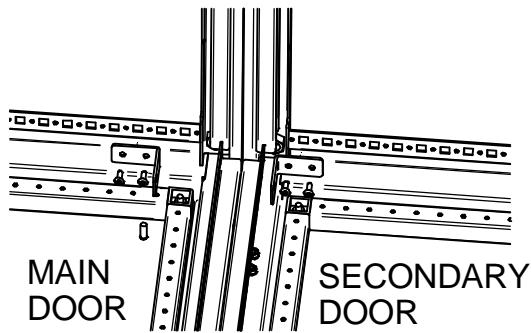

FIG. 1 (TOP INSIDE VIEW)
A) Install interlock rod support brackets (Item 5), one on the main enclosure frame one on the secondary enclosure frame (fig 1) using thread rolling screws (Item 9). Make sure the bracket in the main enclosure will be close to where the interlock engager assembly will end up. The secondary enclosure bracket can go anywhere it doesn't interfere with the locking mechanism.